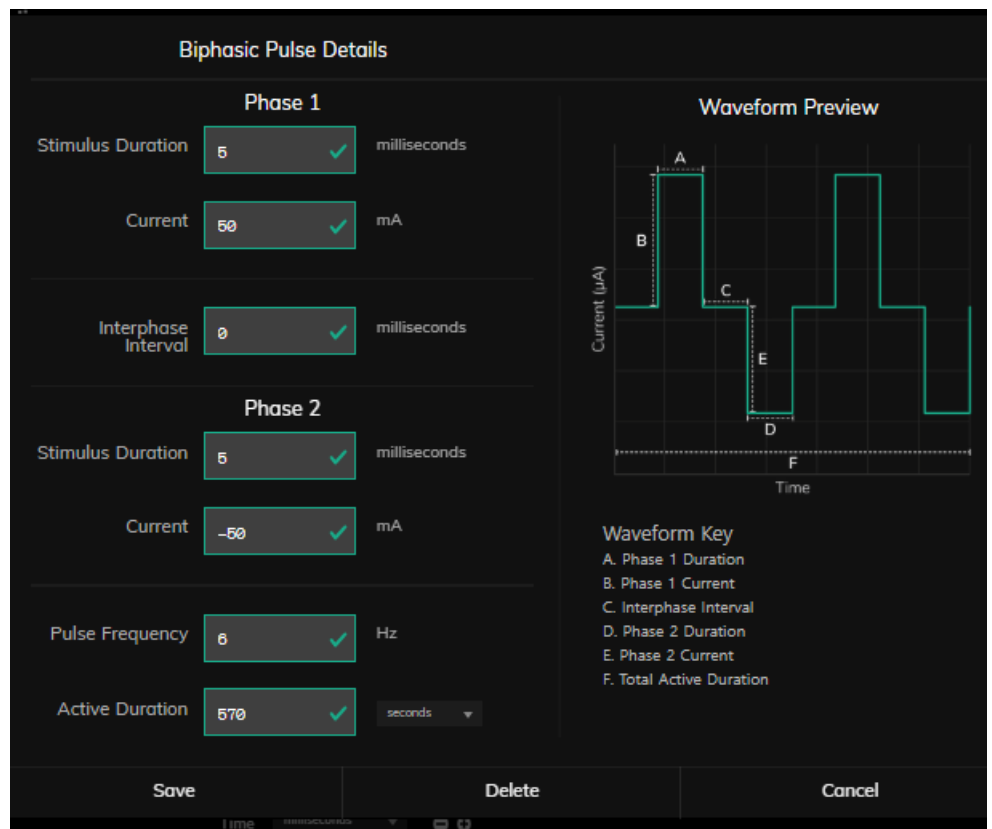

Figure 13
4. Next click on the "Stimulation Studio" button to set up a protocol. The studio is shown in figure 13.